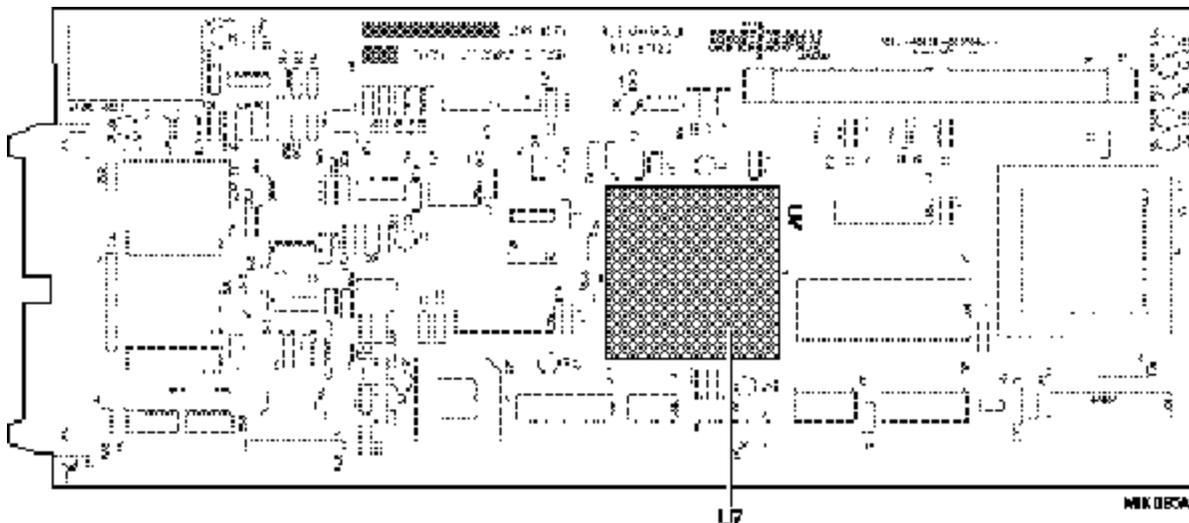

Figure 3. FPGA IC Location
5. On the M3 Option Card locate U7. (See Figure 3) If the letters “ATT” appear on the IC, contact TimeLine for an RMA number. If the Xilinx logo (X) appears on this IC, no replacement is necessary.